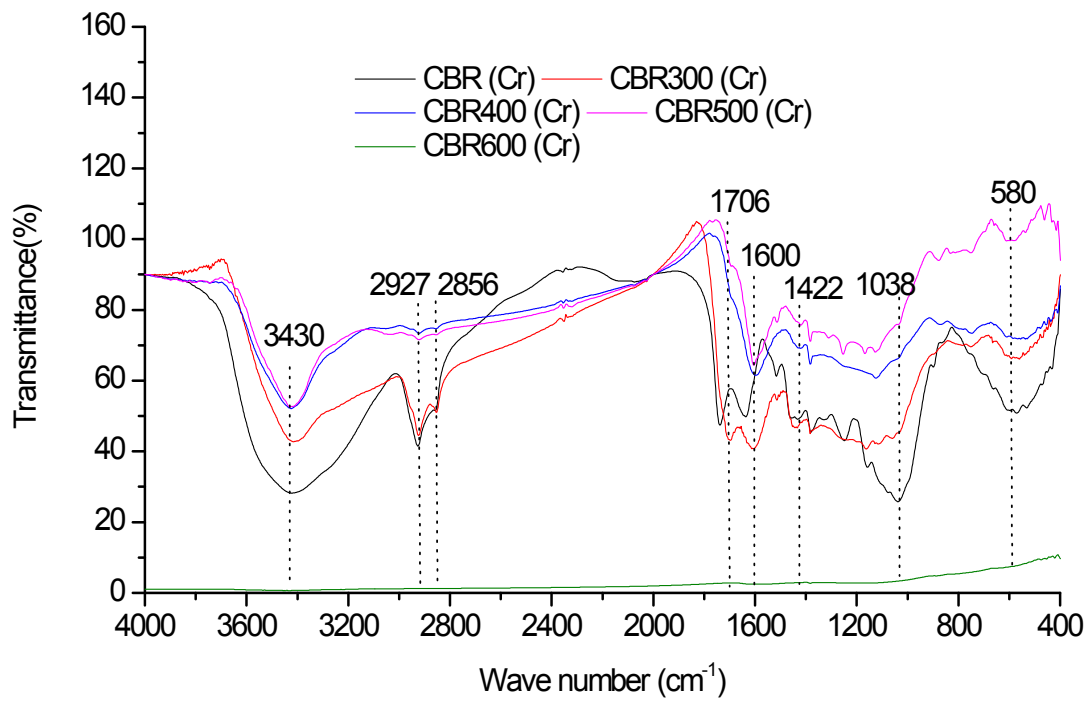

Fig.6
Fig.6. Functional groups present on CBR and CBR-chars inferred from FT-IR ( $\text{cm}^{-1}$ ) after Cr adsorption under the conditions of initial pH of 2, Cr(VI) concentration of  $50 \text{ mg L}^{-1}$ , and adsorbent dosage of  $5 \text{ g L}^{-1}$ .